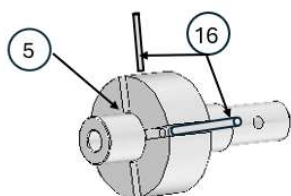

Figure 12
- 4- Insert the two pins (16) into the holes placed at 90° on the rotor (5) (Figure 12).